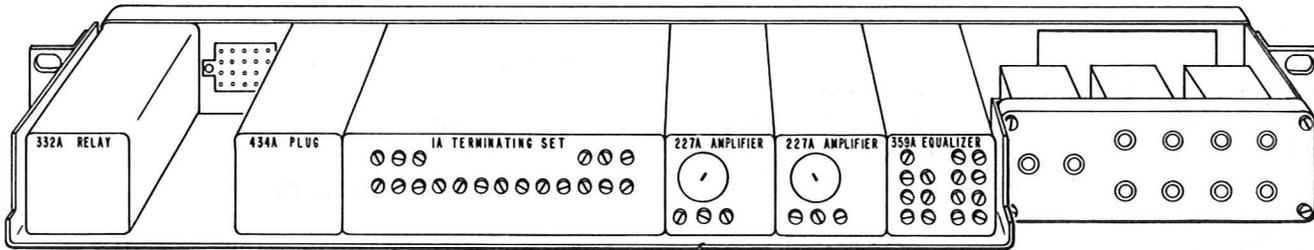
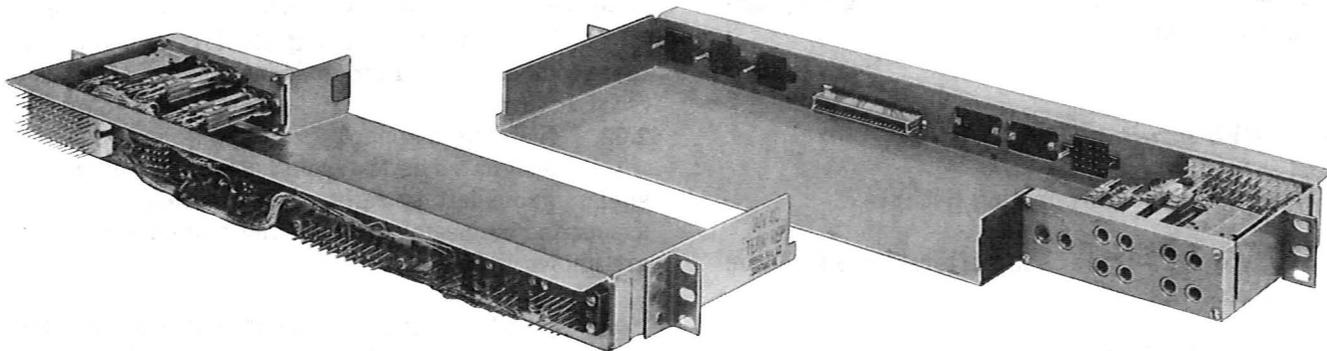

Fig. 1—24V4D Repeater Mounting Shelf—Typically Equipped
Fig. 2—24V4D Repeater Mounting Shelf—Unequipped—Front and Rear Views
2.01 Figure 1 shows the J98615BL, 24V4D repeater mounting shelf equipped with typical V4 plug-in apparatus. Front and rear views of the unequipped shelf are shown in Fig. 2. The mounting shelf consists of seven connector sockets, a test jack field, a designation card holder, a terminal strip, and connecting circuit wiring assembled in a shelf which measures 1-3/4 inches high by 23 inches long. The 24V4D mounting shelf is arranged to mount in bays drilled for 1-3/4 inch mounting plates.